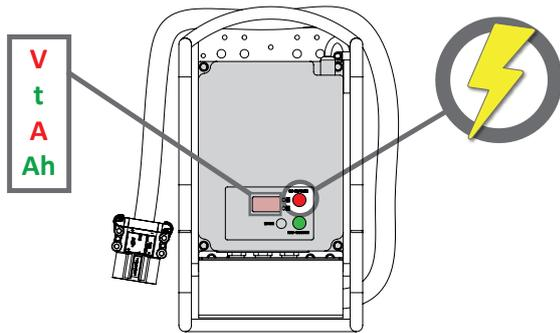

Fig. 14E - Check the charger indications
4. The machine display screen will now show the machine is in charge mode (Fig. 14D). The charger will also show a solid red light to indicate charging in progress (Fig. 14E).